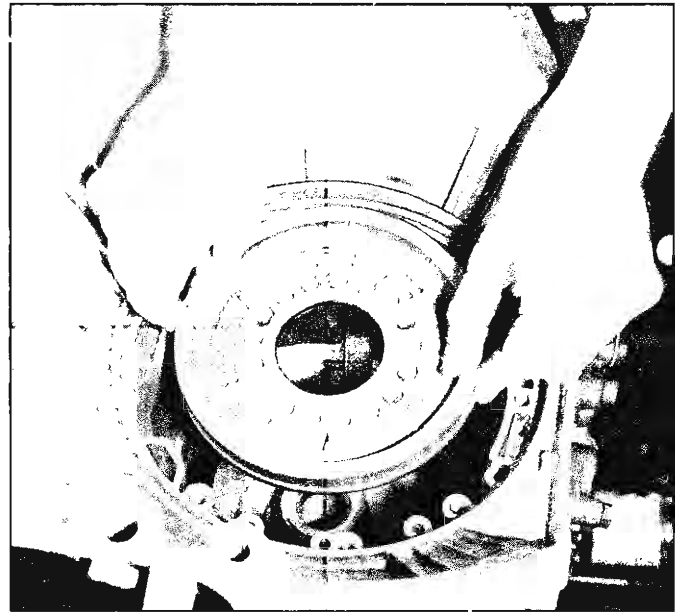

Fig. 34—Installing Reverse Piston
8. Install the inner and outer rear piston seals on the reverse piston and, lubricating the piston and case with transmission oil, install the piston into the case (fig. 34). If necessary, carefully slide a feeler gauge around the outer diameter of the piston to start the seal ring into the bore.